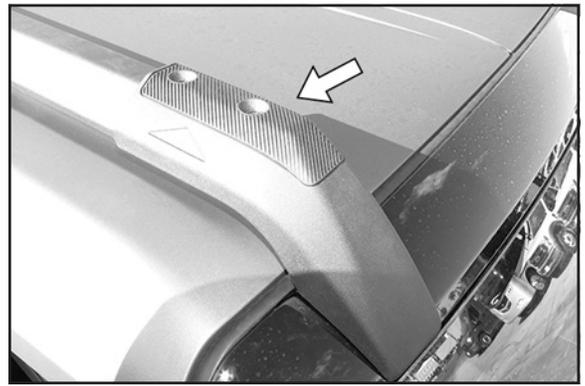

FIGURE 1
- a. Remove the cover from the top of roof rack mount. **(FIGURE 1)**